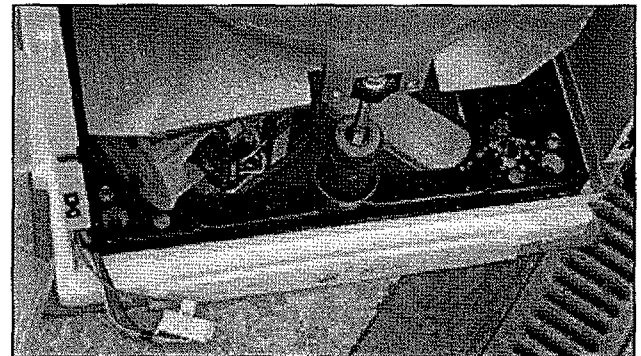

FIGURE 11
12. Remove the two lower plate bolts (1/2"). See Figure 11.